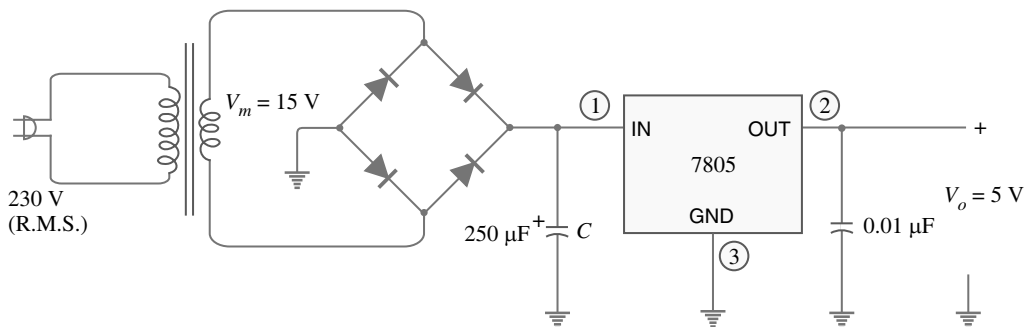

Fig. 15.27
**Solution.** The resulting circuit is shown in Fig. 15.27. Here we use 7805 IC with unregulated power supply.